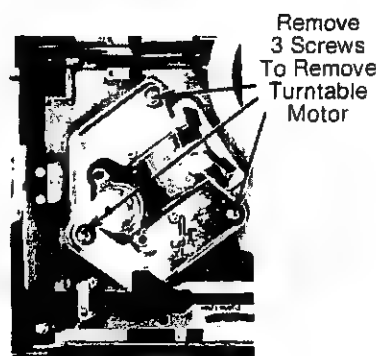

Fig. 2-7. — Turntable Drive Motor Removal
1. Remove 3 each hex head screws (Fig. 2-7).